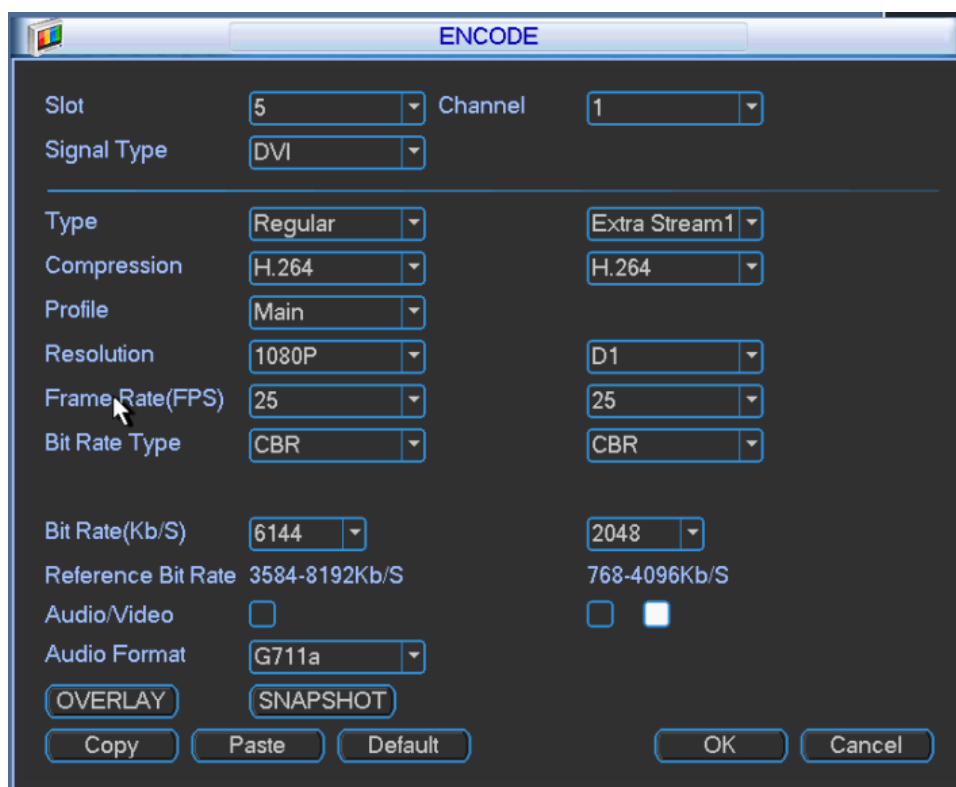

Figure 3-32
Step 1 In main menu, select “Setup>Encode”, and the system displays “Encode” interface, as shown in Figure 3-32.